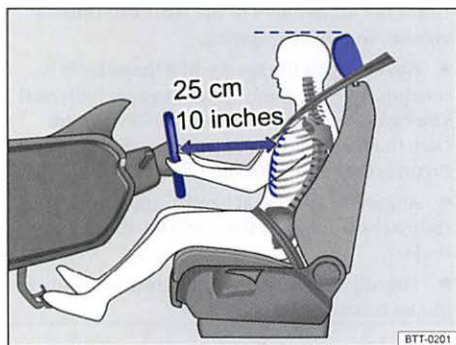
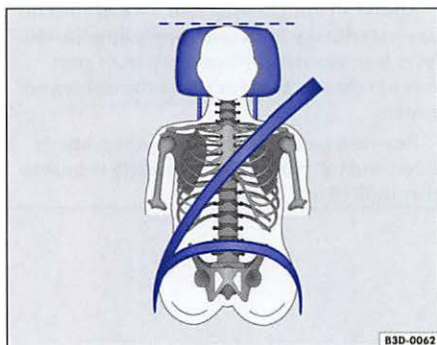

Fig. 30 The driver should sit a minimum of 10 inches (25 cm) away from the steering wheel.
Fig. 31 Proper safety belt positioning and head-restraint adjustment.
- Adjust head restraints so that the upper edge of the head restraint aligns with the upper part of the head above the eyes. Position the back of your head as close as possible to the head restraint $\Rightarrow$ fig. 30 and $\Rightarrow$ fig. 31.
- Adjust the steering wheel so that there are at least 10 inches (25 cm) between the steering wheel and your breast bone $\Rightarrow$ fig. 30. When adjusting the proper distance to the steering wheel, grasp the sides of the steering wheel with your elbow(s) slightly bent.